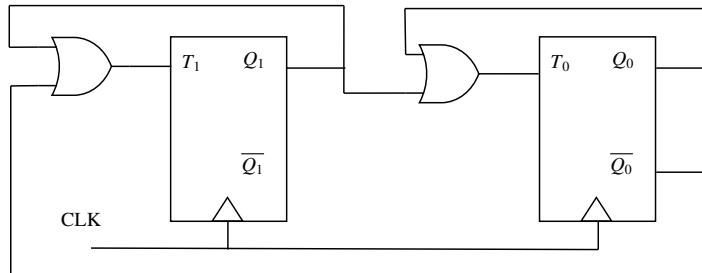

Fig. 5.25
27. The sequence of states ($Q_1 Q_0$) of the given synchronous sequential circuit in Fig. 5.25 is _____.